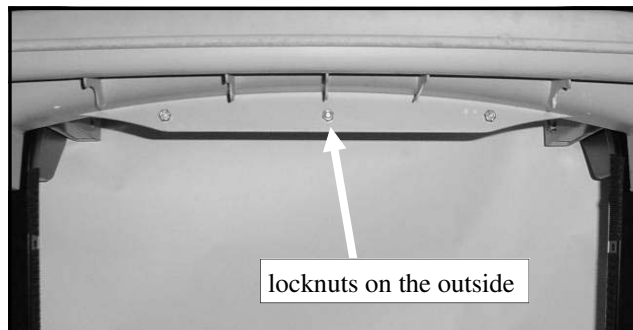

Fig. 3.3a (rear support rib, shown from vehicle rear)
3.3 Per fig. 3.3a & 3.3b, drill  $\frac{7}{32}$ " diameter holes through the roof's rear support rib. All three holes to be  $\frac{1}{2}$ " up from the bottom of the plastic flange. Locate the first hole directly in the center. From the first center hole mark, locate the other two holes at  $5\frac{1}{2}$ " on both the left and right side of center. Install the snaps so the locknuts are outboard as shown in figure 3.3a.